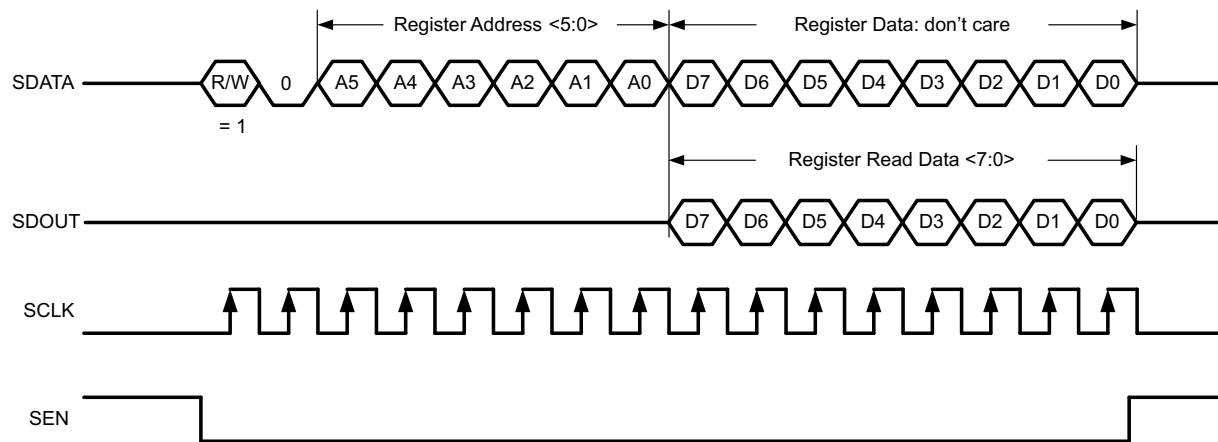
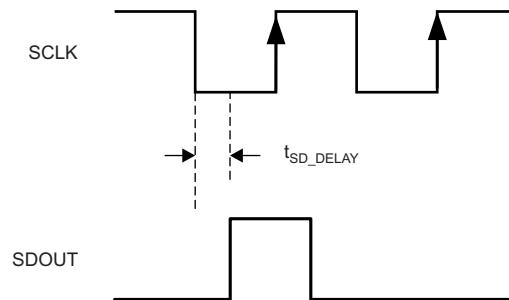

Figure 80. Serial Register Readout Timing Diagram
Figure 81. SDOUT Timing Diagram
2. Write the address of register on bits A5 through A0 whose contents must be read. See Figure 80.
When serial registers are enabled for writing (bit A7 of 8-bit address bus is 0), the SDOUT pin is in a high-impedance mode. If serial readout is not used, the SDOUT pin must float. Figure 80 shows a timing diagram of this readout mode. SDOUT comes out at the SCLK falling edge with an approximate delay (t_{SD_DELAY}) of 20 ns, as shown in Figure 81.